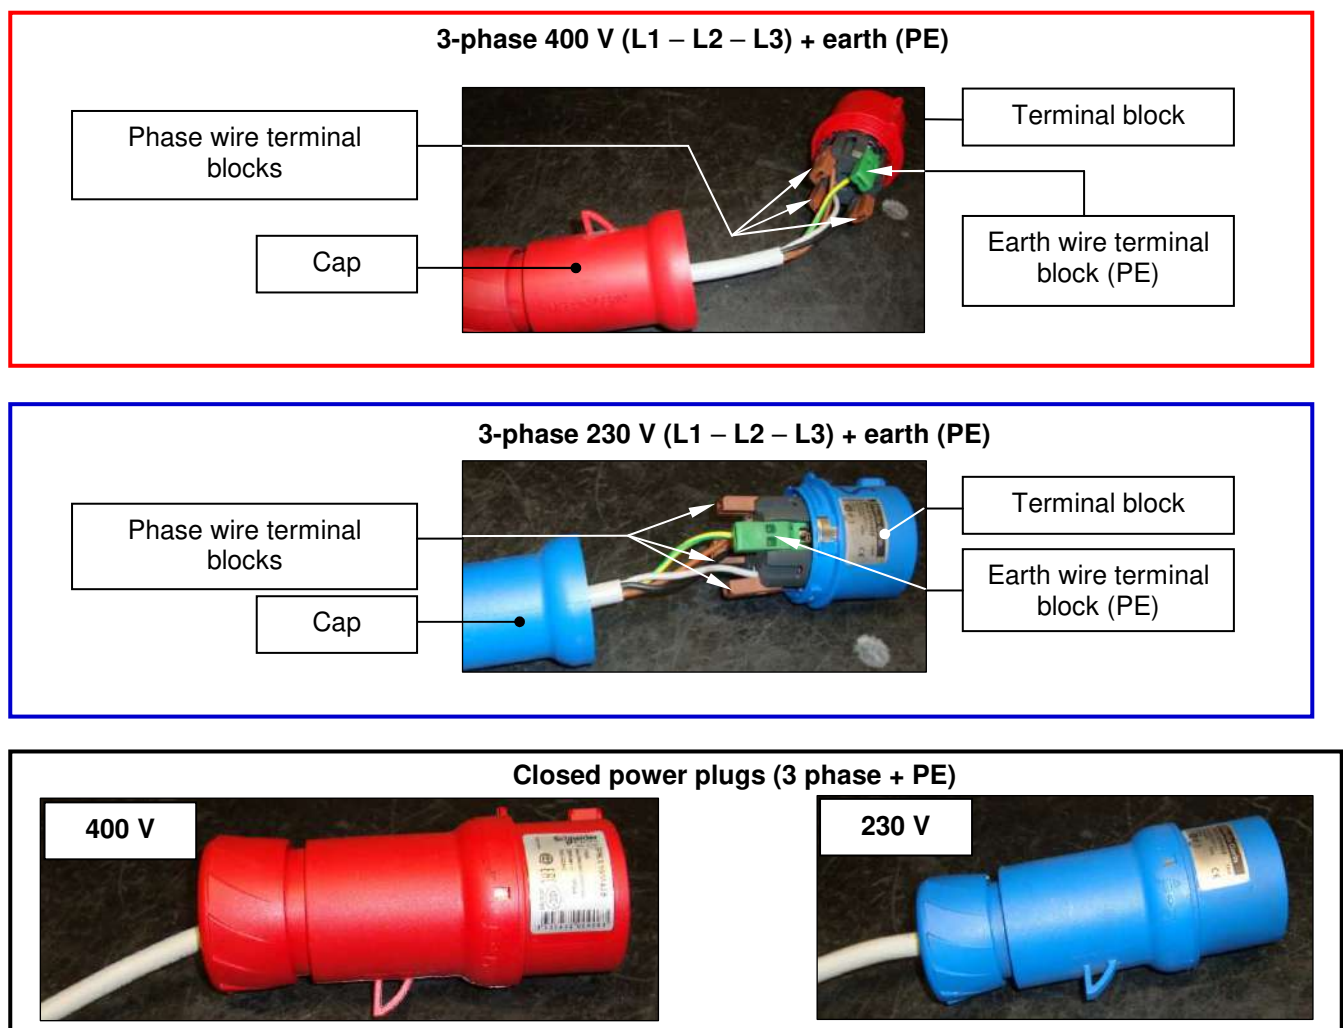

Figure 11 - Power cable plug
Some indications for doing this are shown in Figure 11:
- tighten the terminals and close the terminal block with the cap, as shown in Figure 11.